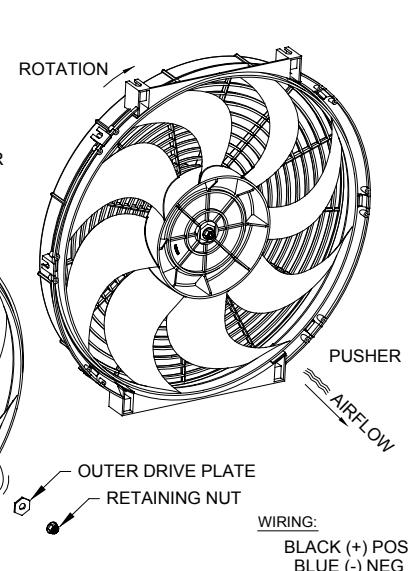

FIGURE 5
3. After seating blade, replace nut. Pusher configuration should look as shown in **Figure 5**.